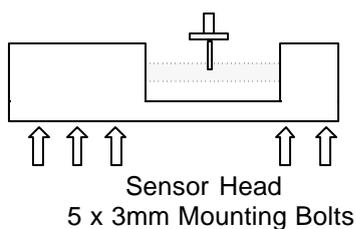
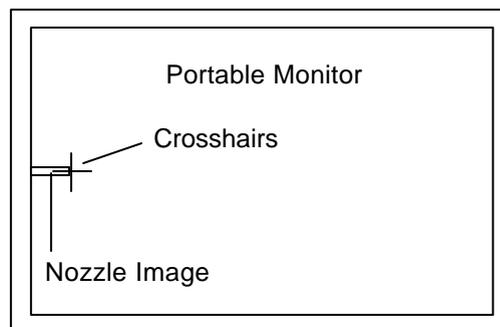

Figure 3
Figure 4
3. To display the nozzle image on the monitor, press: [MODE](LED ON) on the sensor amplifier. Loosen the 5 mounting bolts (Fig.3) for the sensor head (under the cutter plate) and adjust so the nozzle appears at the left side center of the monitor. (Fig.4)